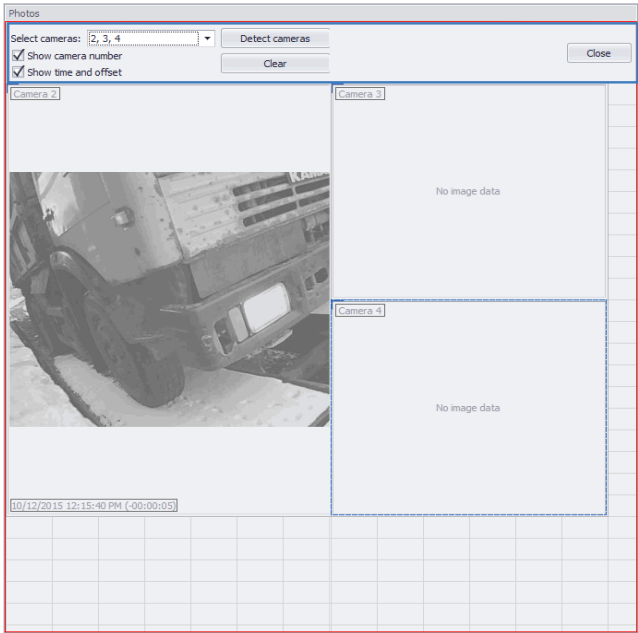

Fig. 176. Setup of Photo viewer.
- Right-click in the module window and select the “Edit mode” command in the menu which appears. The setup menu appears at the top of the viewer (**Fig. 176**).